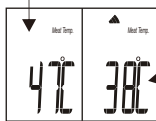

Fig.6B – After connection
- Connected: Once the transmitter and receiver are connected (the  icon will start to flash once every 3 seconds), the temperature values of oven and meat sensors will be shown on the screen (Fig.6B).